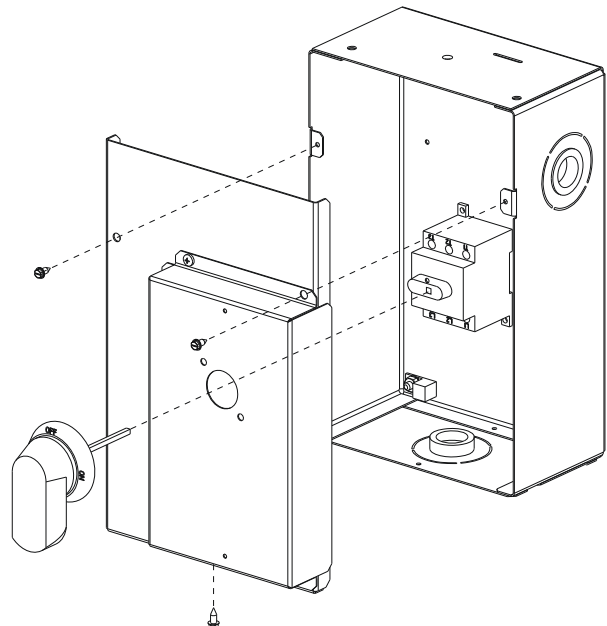

Fig. 45 — Handle and Shaft Assembly for NFD (Size 16)
To field install the NFD shaft and handle (see Fig. 45):
2. Remove (3) hex screws on the NFD enclosure - (2) on the face of the cover and (1) on the left side cover. See Fig. 45.
10. Secure the handle to the painted cover with (2) screws and lock washers supplied.
11. Engaging the shaft into the handle socket, re-install (3) hex screws on the NFD enclosure.